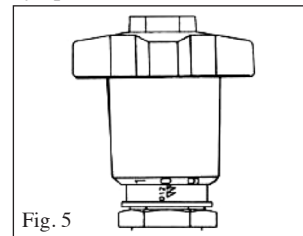

Fig. 5
7. With all arrows visible, the inner scale set at 6 and the indicator line aligned with outer scale 0, the valve setting is 6.0 and the valve is fully open. Refer to Fig. 5.